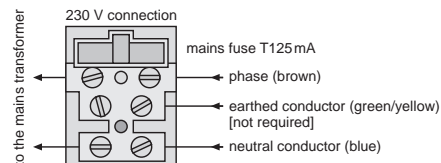

Fig. 4 Overview of the connections
The following fig. 4 shows all possible connections. Detailed information can be found in chapters 4.5.1 to 4.5.12.
1. All alarm contacts shown in fig. 4 are opening contacts (also called NC contact = normally closed) as for the majority of the standard components. Generally it is also possible to use closing contacts (NO contacts = normally open). As an exam-